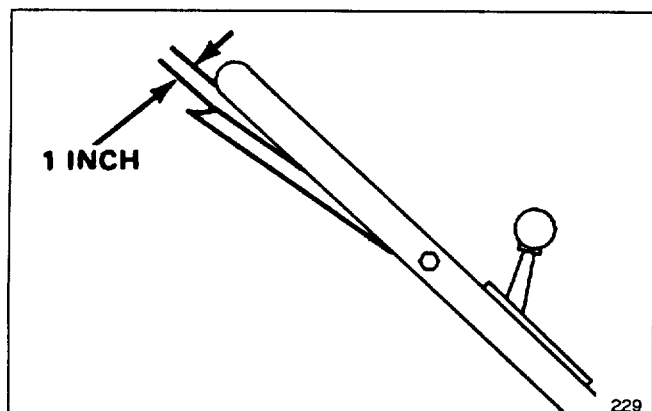

Figure 22
3. CHECK ADJUSTMENT—Slowly pull mower backward while control bar is gradually moved toward handle. Adjustment is correct when rear wheels stop turning and control bar is about 1-inch from handle (Fig. 22).